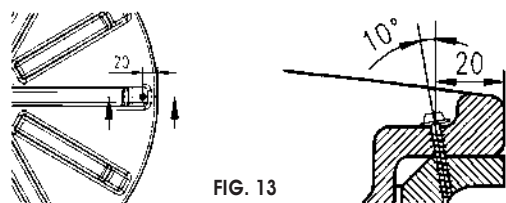

FIG. 13
- To prevent any unauthorised opening of the cover (child safety), particularly for buried installation, the cover may be locked in place using the screw provided. To this end, drill a Ø 3mm hole in the recession predefined on the tank's cover and flange (10° angle), then screw in the screw. (See FIG. 13 - below).